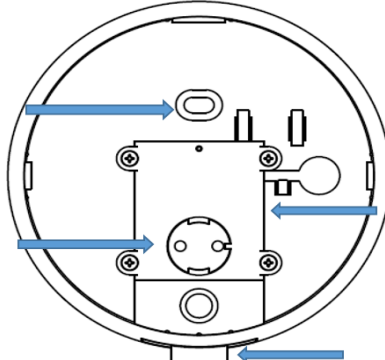

Figure 3a
1. Remove the battery holder by pulling on the yellow tab (figure 3a).
3. Move the base toward the safe door, gently pull on the cable to take up any slack. Be very careful to pull all excess cable through to the front of the keypad base, and make sure it remains in the recessed channel in the back of the base (figure 3a). When finished the base should be flat against the safe door. The excess antenna and keypad cable should be pulled to the front, and the cable under the base should be in the recessed channel.
4. With the keypad in position on the safe door, install the two mounting screws (figure 3a). The holes in the keypad base will line up with the existing mounting holes in the safe door.
6. Use alcohol swab and clean the outside of the battery housing. Remove the protective backing from the antennae and apply to battery housing wall. Once pressed firmly, its adhesive will hold it in place (figure 3a)..
8. Place a 9-volt alkaline battery (Duracell® is recommended) into the battery holder. Then slide the holder into the opening in the bottom of the keypad base. It will click into position (figure 3a).